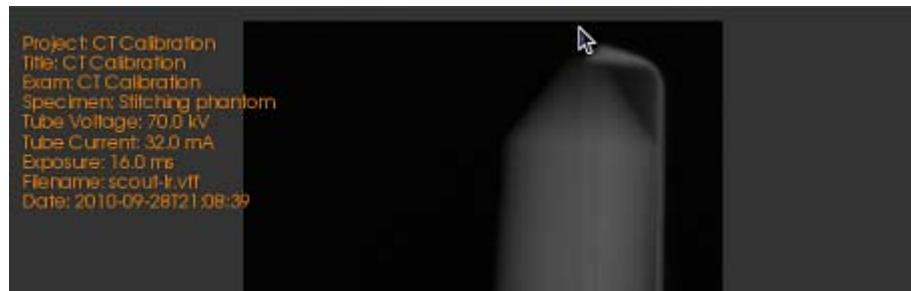

Figure 7-121
- Now move the mouse to the top edge of the scout image. Again, you will want to make note of the z-axis position of the table, as displayed at the bottom of the scout image (Figure 7-121).